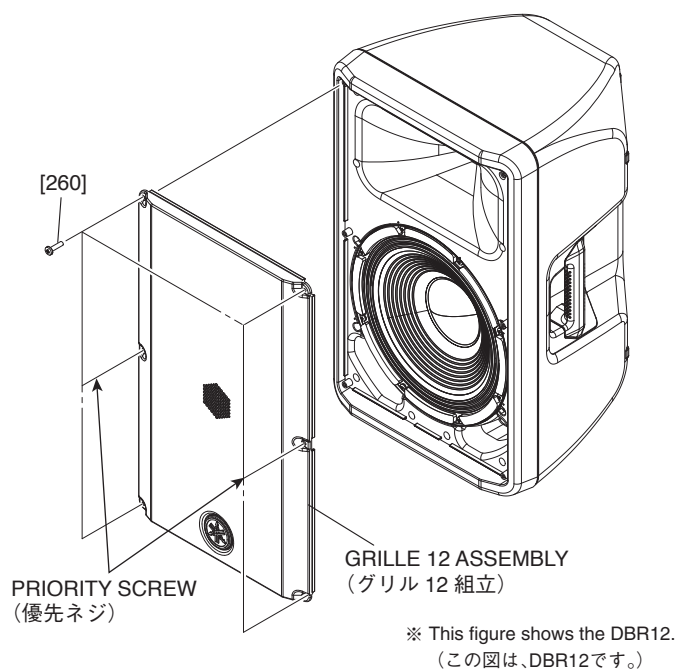

Fig. B-1 (図B-1)
B-1-1 Remove the six (6) screws marked [260]. The grille 12 assembly/grille 15 assembly can then be removed. (Fig. B-1)
* *When installing the grille 12 assembly/grille 15 assembly, first tighten the two (2) priority screws as shown in Fig. B-1.*
B-1-1 [260]のネジ6本を外して、グリル12組立/グリル15組立を外します。(図B-1)
※ グリル12組立/グリル15組立を取り付けるときは、図に示す優先ネジ2本を先に締めてください。(図B-1)